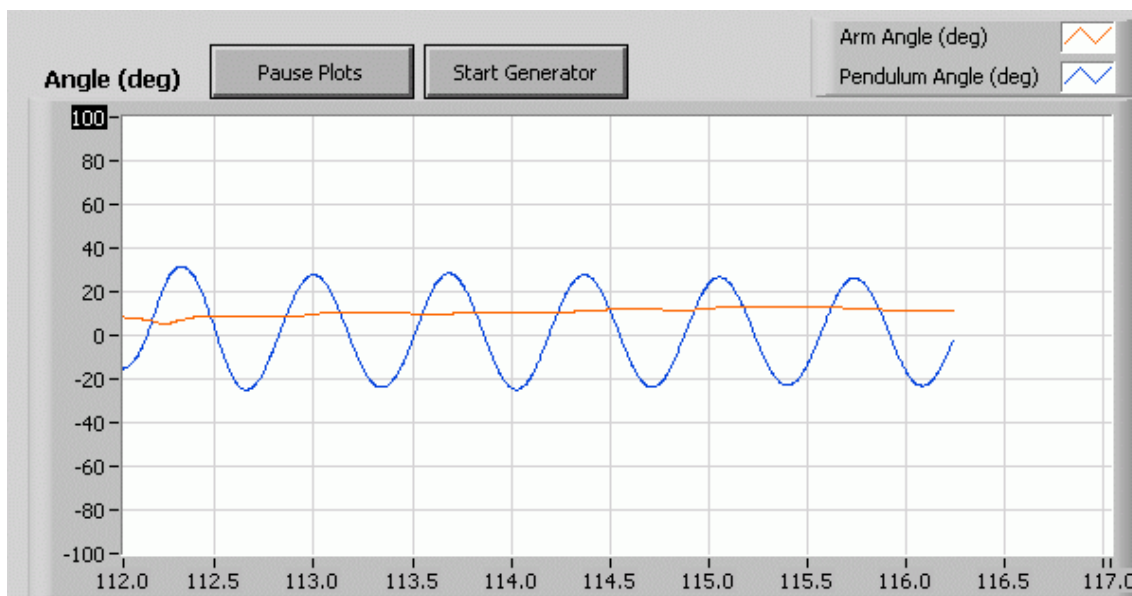

Figure 7.11: Changing scale of LabVIEW scope
1. As illustrated in Figure 7.11, to decrease the positive range of the scope down to 40, double-click on '100' in the y-axis, type in '40', and press ENTER.